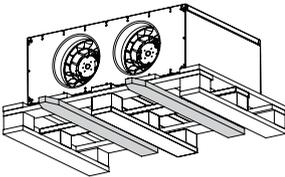

Fig. 3:
- If transported with a forklift it should be ensured that the product is resting with the basic profile or base frame completely on the forks or on a pallet and the product's centre of gravity is between the forks (see Fig. 3).